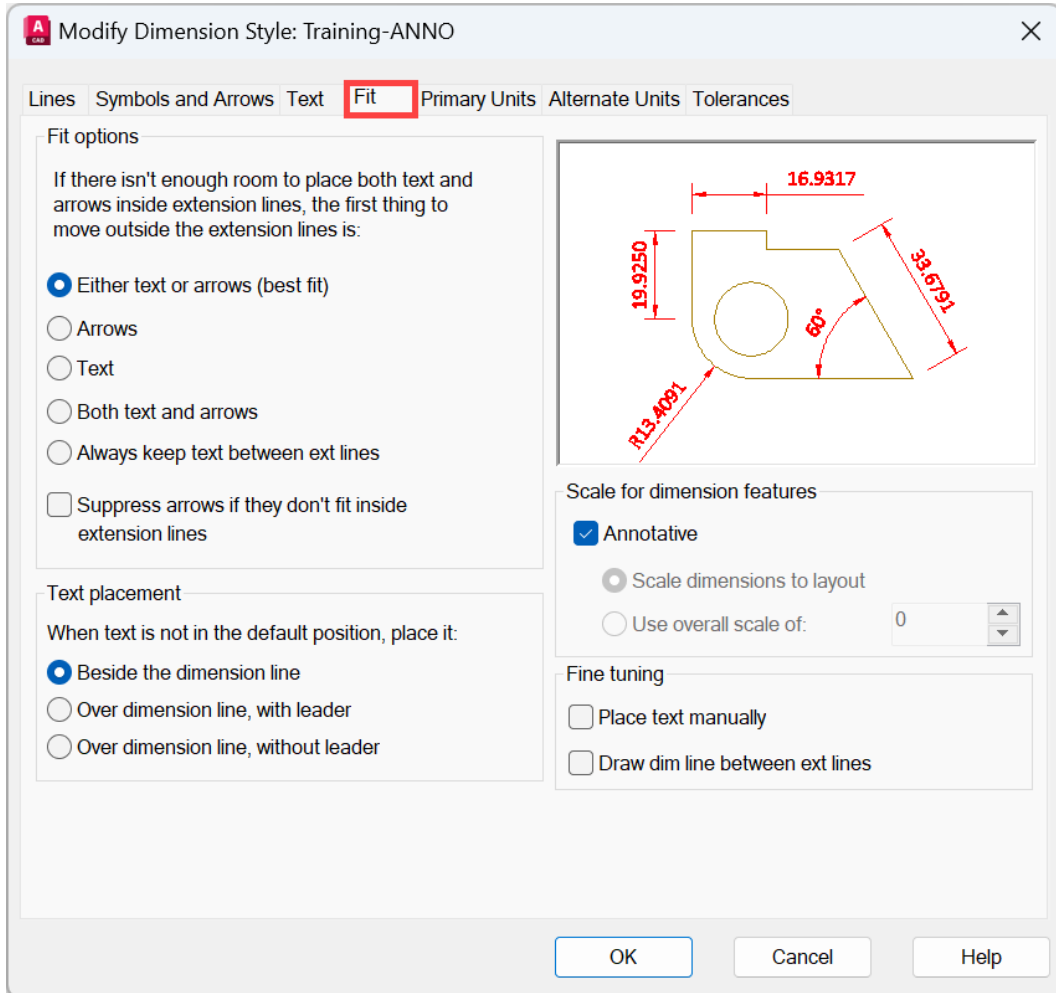

Figure 7.14: The Fit tab with the Annotative checkbox checked
14. The dimension style you create is annotative, so the **Annotative** checkbox will already be checked. If it isn't, though, make sure it *is* ticked. You don't need to make any other changes to the **Fit** tab, as you will be using the default settings, so make sure your **Fit** tab looks the same as the one displayed in *Figure 7.14*.